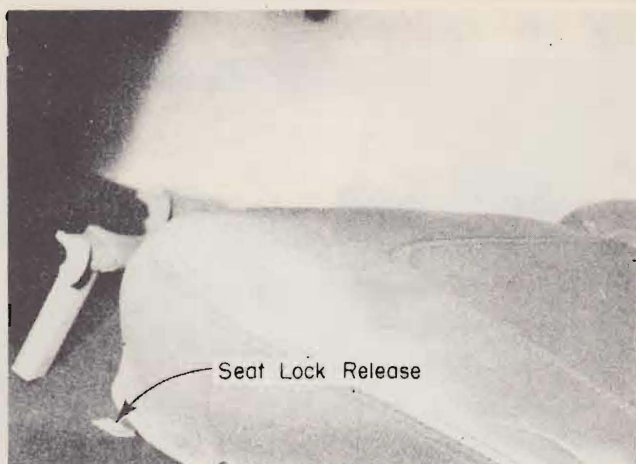

Figure 10—Seat Lock Release
43. Seats are provided for four persons. The front seats are adjustable and can be moved forward or back by releasing a locking device (see Figure 10). The backs of both front seats fold forward permitting entrance to the rear seats.